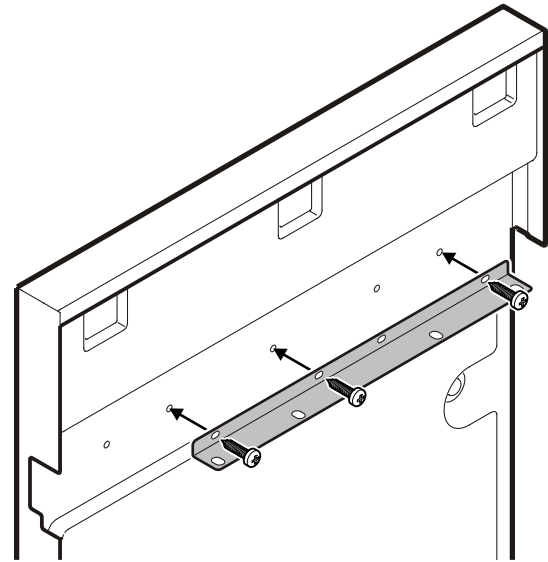

Figure 19
3. Fasten the attachment bracket onto the panel for the right refrigerator door using 4 x 16 mm screws (**Figure 19**).